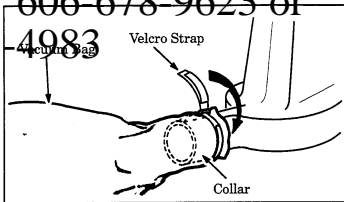

Figure 6
2. Slide the opening of the vacuum bag over the collar. Figure 6. Pull the velcro strap tightly through the metal ring; secure as shown in Figure 6.
NOTE: Make sure the velcro strap is located between the motor housing and the collar. Figure 6.